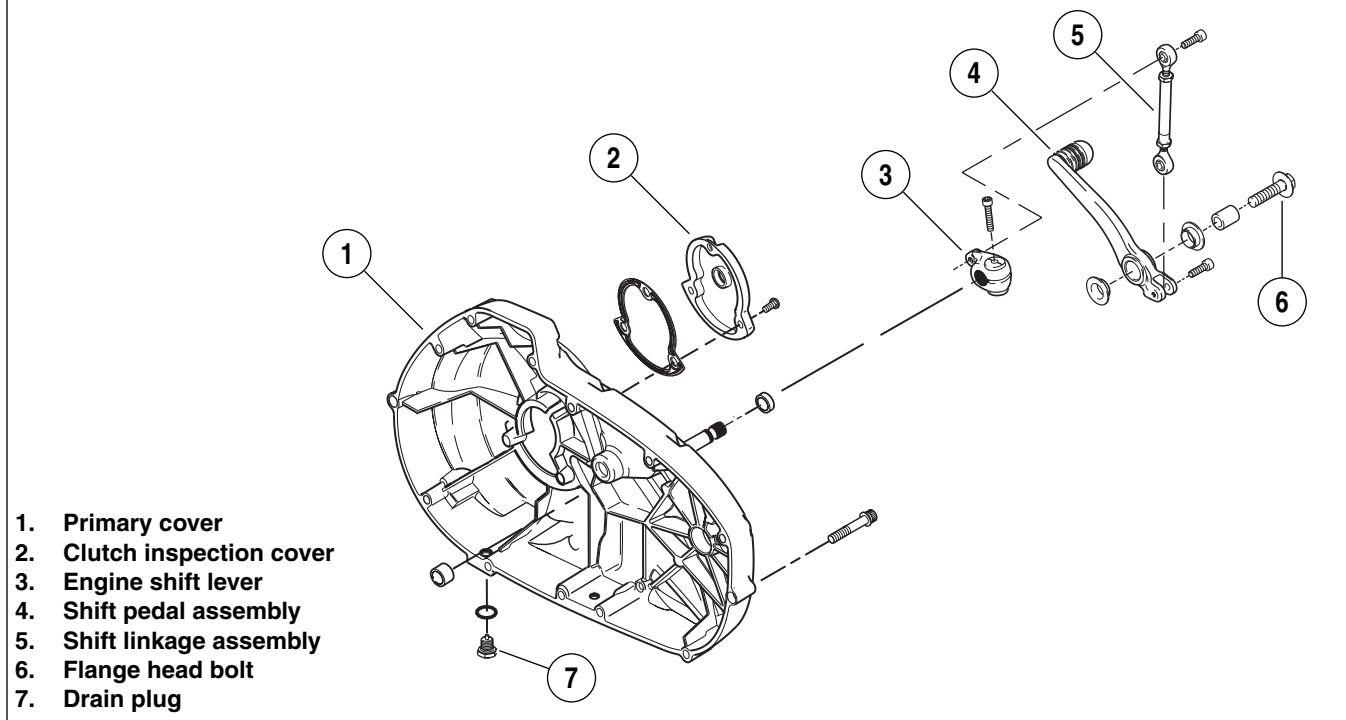

Figure 2-97. Primary Cover and Shifter Assembly
13. See Figure 2-97. Remove clutch inspection cover (2).
12. See Figure 2-97. Install clutch inspection cover (4) with three TORX screws with washers. Tighten screws in a crosswise pattern to 84-108 **in-lbs** (9.5-12.2 Nm).